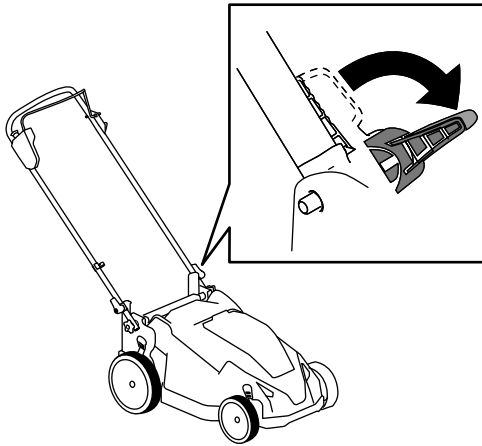

Figure 14
2. Disengage the handle locks until you can move the upper handle freely (Figure 14).
3. Disengage the handle locks (Figure 14).